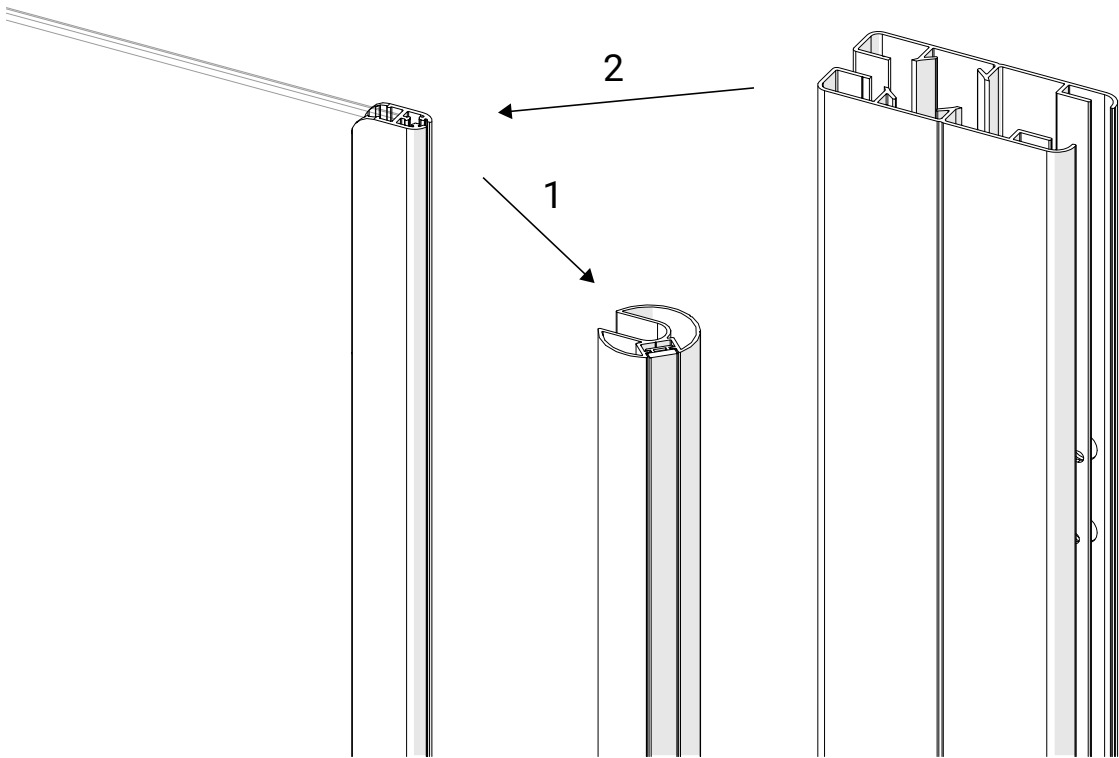

Fig. 2.1
- 700 to 1000 panels have a round extrusion instead of the whopper. Hence, if they are to be used as in-line panels, they need adapting. Remove the round extrusion and slide the whopper on in its place. *Figure 2.1*